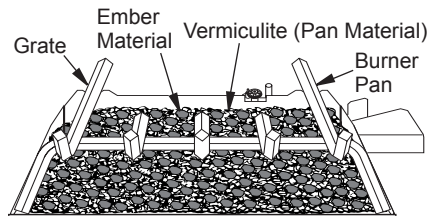

Figure 21 - Ember Material on Surface of Pan Material (Vermiculite)
3. Remove ember material from bag and flatten small amounts into quarter size pieces and lay on top of surface of pan material (see Figure 21).